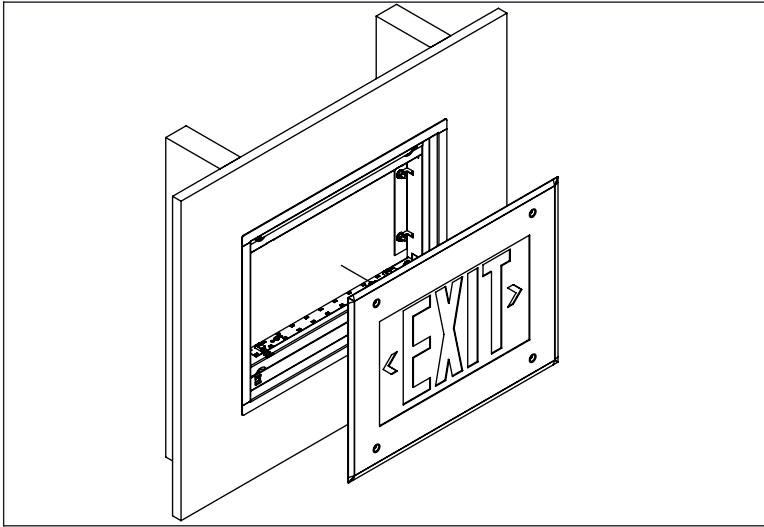
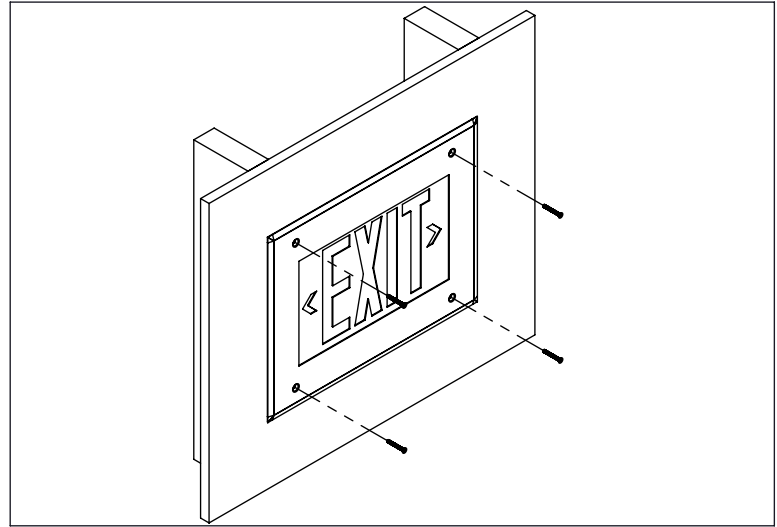

Figure 10
Figure 11
6. Reinstall luminaire frame (Fig. 10) and fasteners (Fig. 11).